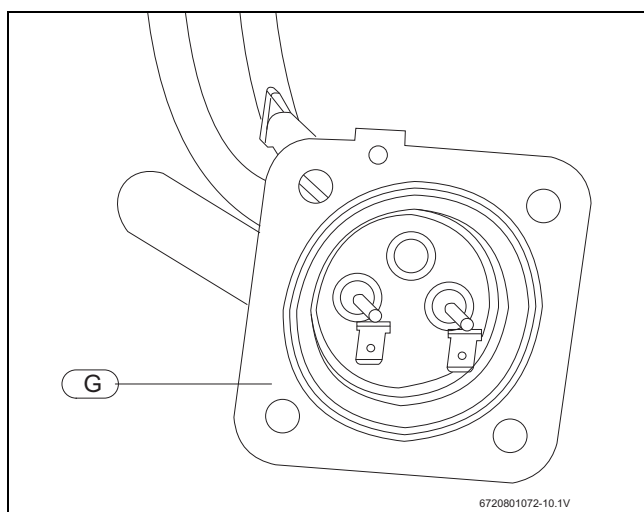

Fig. 11
- ▶ Remove the element G (Fig. 11).